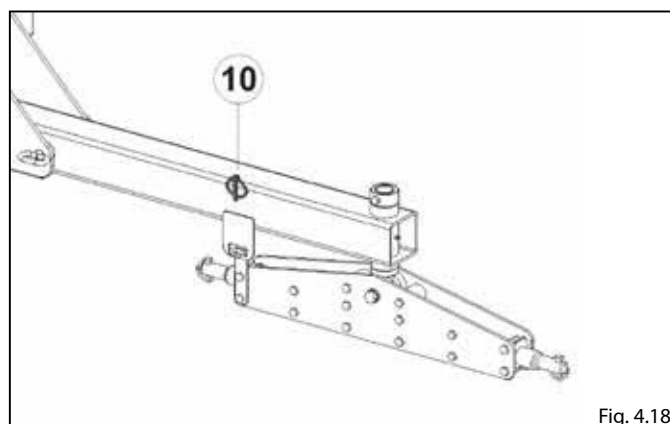

Fig. 4.18
- Free the towbar by removing pin **10** (Fig.4.18).